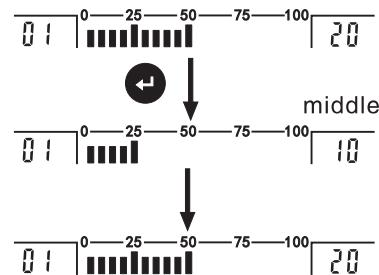

Figure 3-1-3 File upload process
- c. The sending process is dynamically displayed in the two sides of reading area and status area. (Figure 3-1-3)